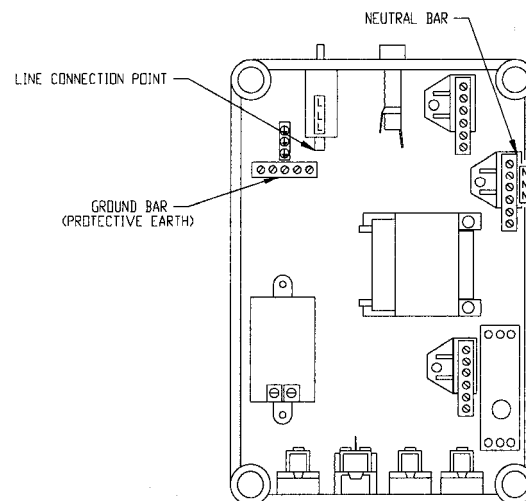

Fig. 10
27. Remove the tall door on the left side of the tub. Remove the cover of the electrical enclosure. Inside will be a female disconnect terminal connected to the circuit breaker at the locations labeled "L". This is to be used for making the field connection to the circuit breaker. The neutral wire is to be connected to the neutral bar labeled "N". The "protective earth" (ground) block is also labeled. See figure 10.